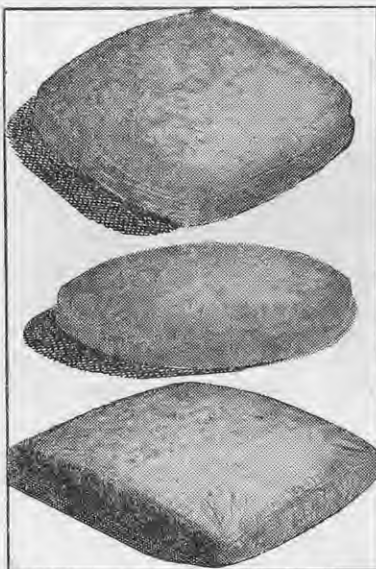

Fig. 5—Side panels give extra depth to cushions.
4. **Cushions with a side panel** have extra depth, but the cushion has a better appearance if the cross measurements are smaller than 20 in. The usual $\frac{1}{2}$ in. seams are allowed for when cutting out, and sewing directions are the same except that the side panel is inserted between the top and bottom of both cushion case and cushion cover as in Fig. 5.